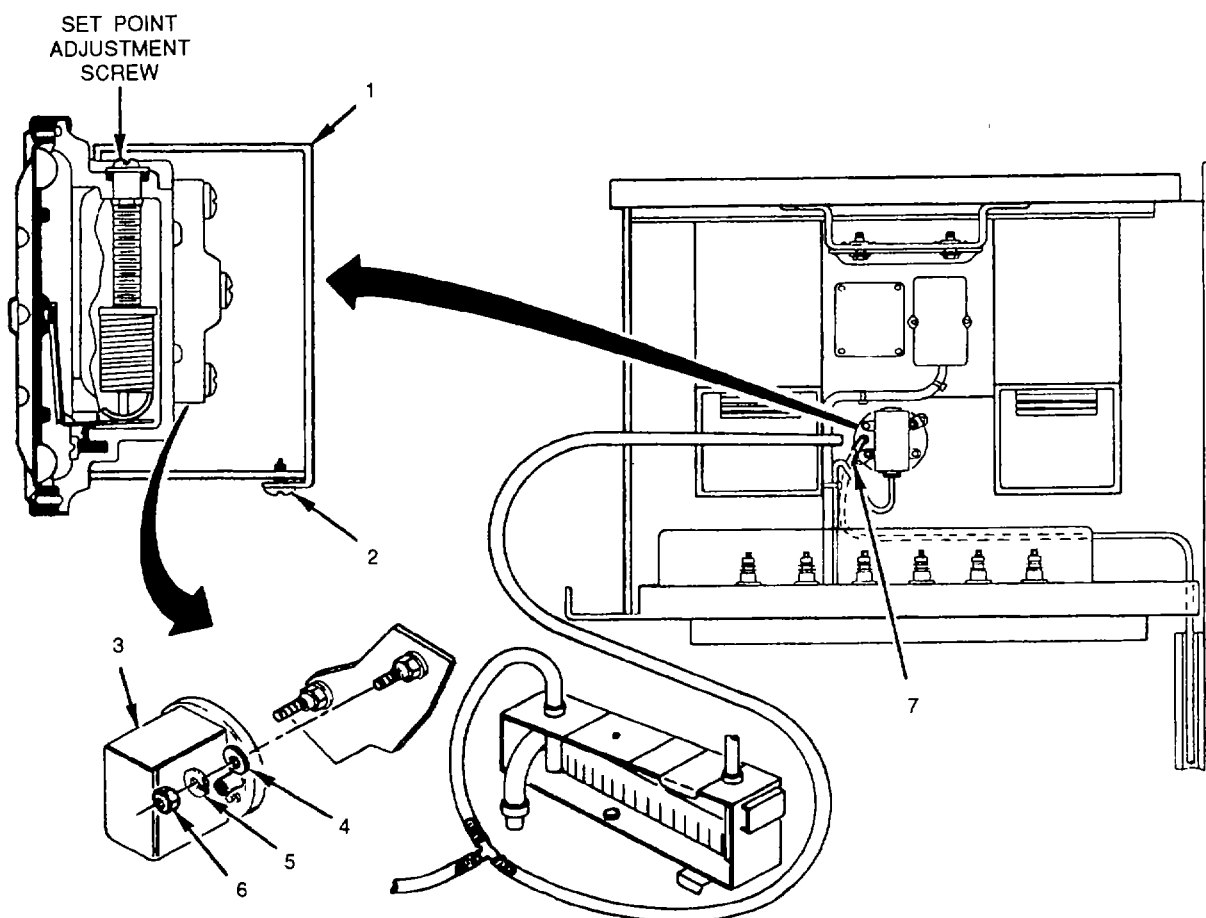

Figure 4-45. Airflow Filter Switch (S3)
- a. Remove cover screw (2) and unsnap cover (1) from switch (3) (see fig. 4-45).
- c. Remove air hose (7).
- d. Remove two nuts (6), lockwashers (5), and flat washers (4)
- e. Remove switch (3)
- a. Check for airflow through switch (3). If airflow is restricted, replace switch
- b. Check switch (3) for cracks, breaks or dents. Replace if damaged